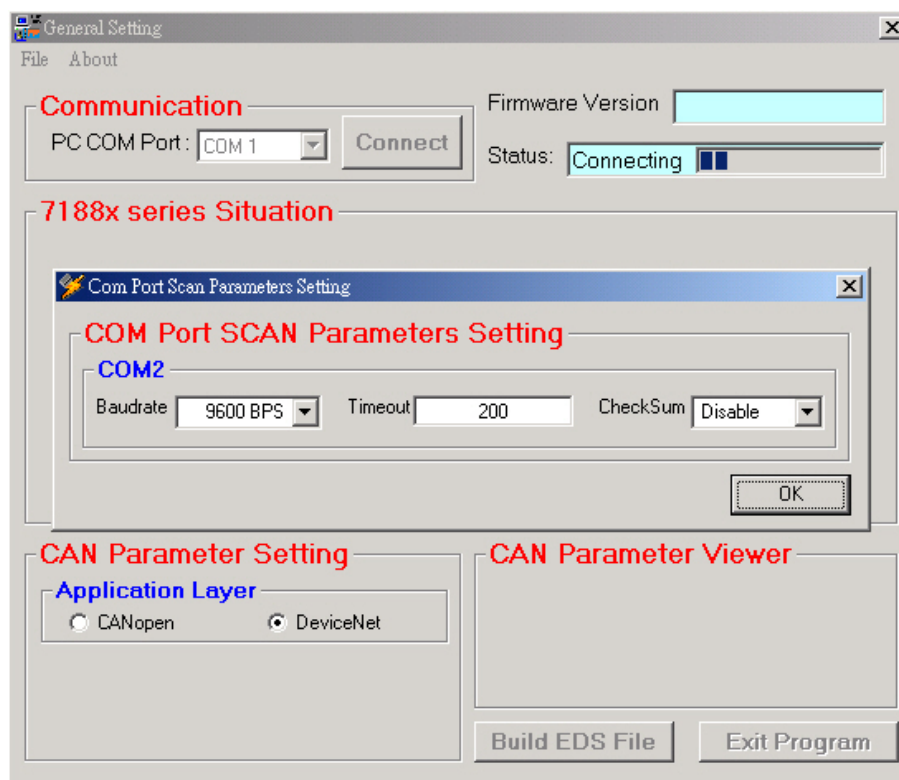

Fig 5-18 “Com Port Scan Parameters Setting”
Step 3: Press the “Connect” button to connect the i-7241D. Then the “Com Port Scan Parameter Setting” dialog will be pop-up as follows. Please set the correct com port communication parameters to scan the i-7K modules. Then press the “OK” button to begin the modules scans as figure 5-18.